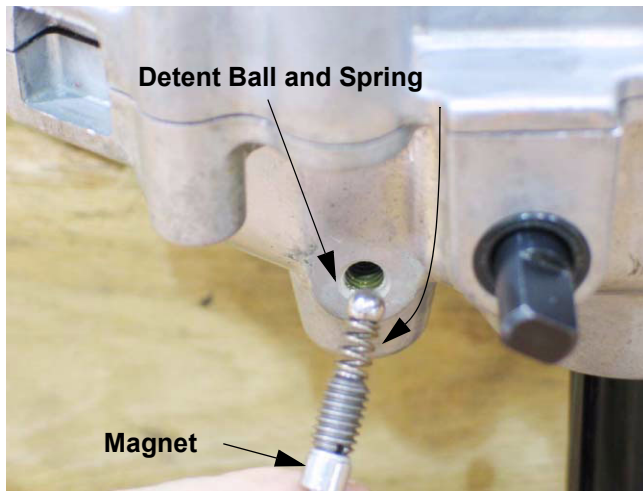

Figure 11.4
- 11.4. Remove the detent set screw using a straight-blade screwdriver. Retrieve the detent ball and spring from the detent screw bore using a magnet. See Figure 11.4.